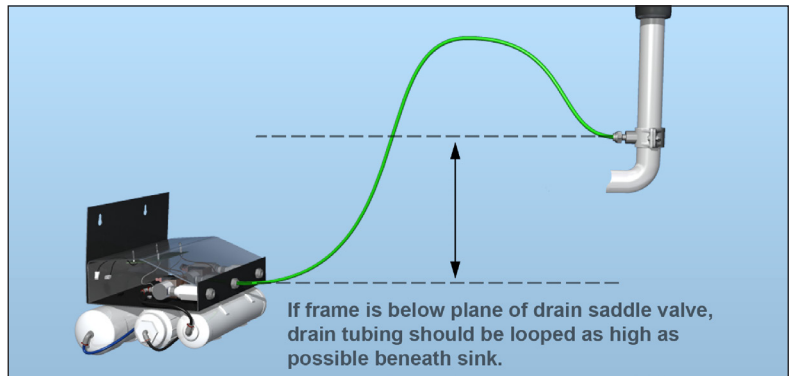

Figure 10, Drain line connection (tubing color for illustrative purposes)
NOTE: When installing the Main Assembly, mount the frame above the position of the drain saddle whenever possible. (See Figure 10, page 10.)
**IMPORTANT:** If the frame of the main assembly is not above the drain saddle valve, you will need to loop the tubing as high as possible beneath the sink. Be sure to allow for this loop when you measure. (See Figure 10 below) A self-adhesive tubing clip has been provided to secure the drain loop.